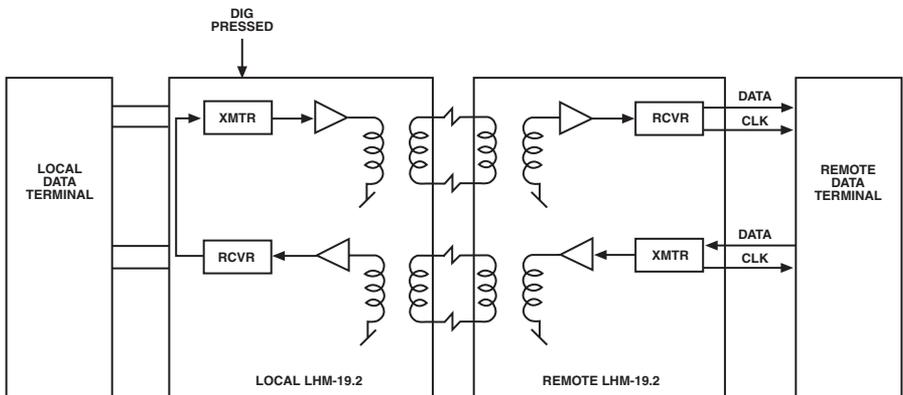

Figure 6-5. Local digital loopback.
1. To run a local digital loopback test on a pair of LHM-19.2s, press the DIG button on the local LHM-19.2's front panel. (This has no effect unless the two modems are fully synchronized, so wait for a few seconds after you power them up before you start this test.) The test should start and both LHM-19.2s' TEST LEDs should light. The local LHM-19.2's receiver output is now connected to its own transmitter, as shown in Figure 6-5 on the next page.